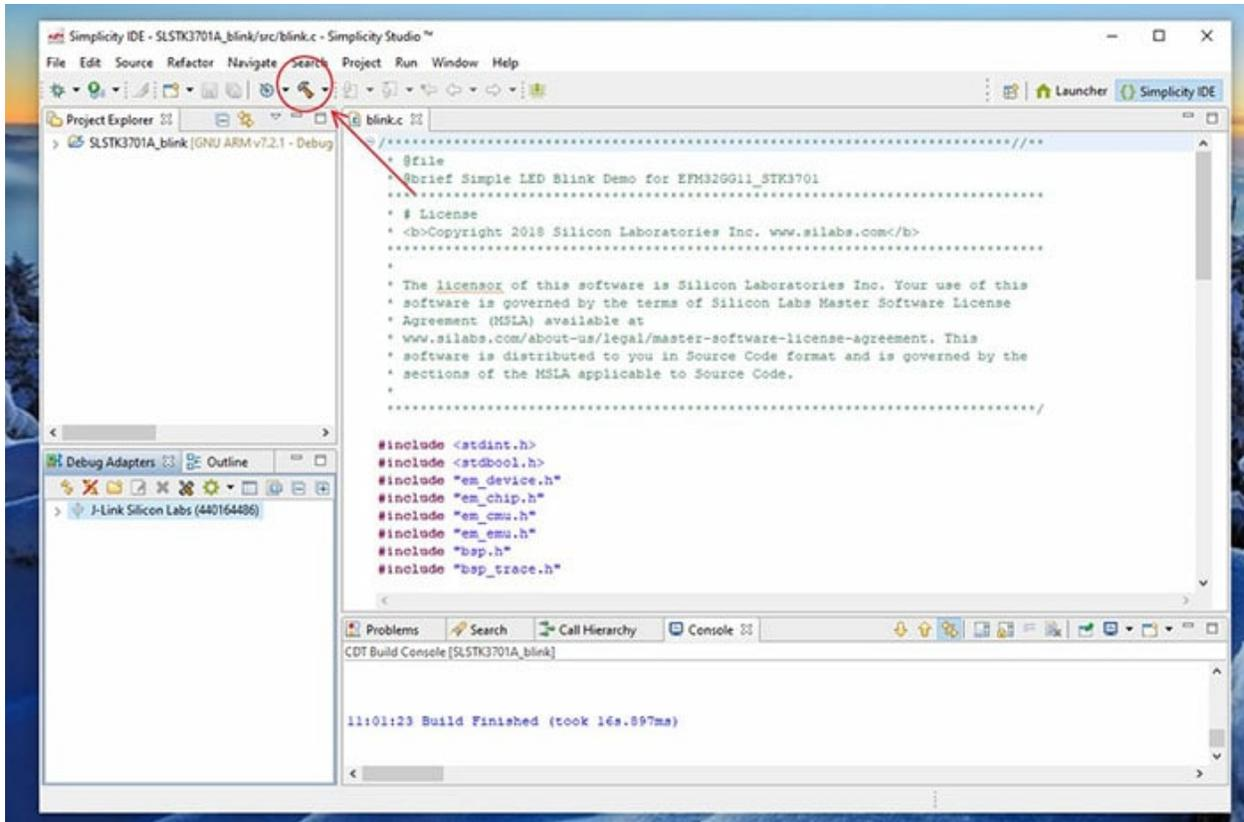

Figure 7: Compile the project. (Source: Simplicity Studio)
13. Compile the project using the “hammer icon” (Figure 7).